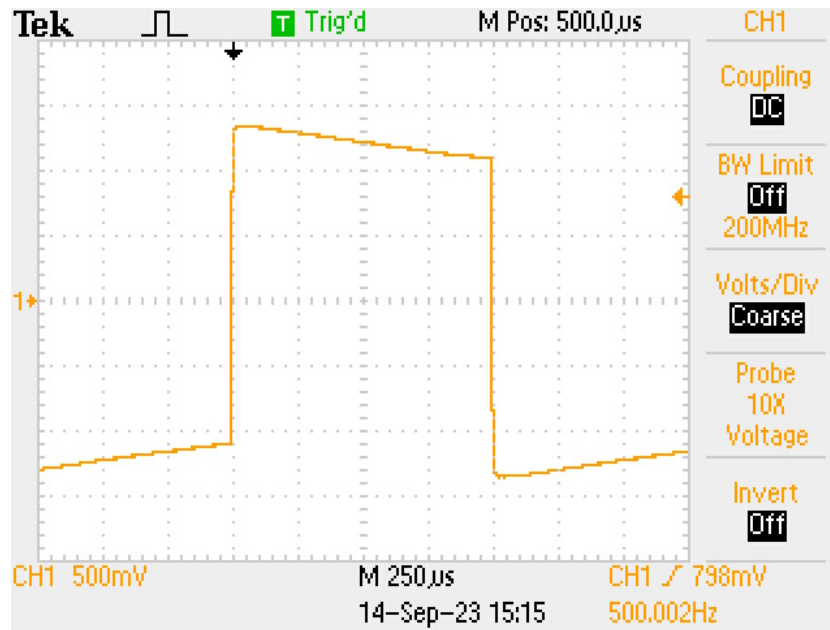

Figure 2.5: Tilt Setup
- (c) Adjust the frequency so the waveform tilt is prominent, $\approx 500_{HZ}$. See Figure 2.5 *Tilt Setup*.